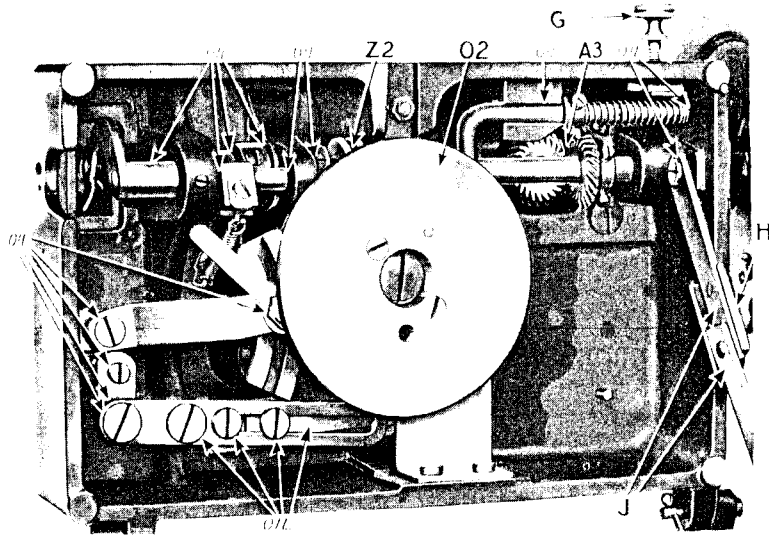
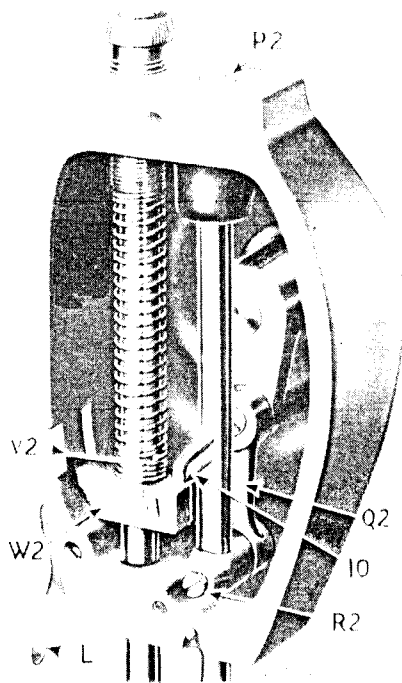
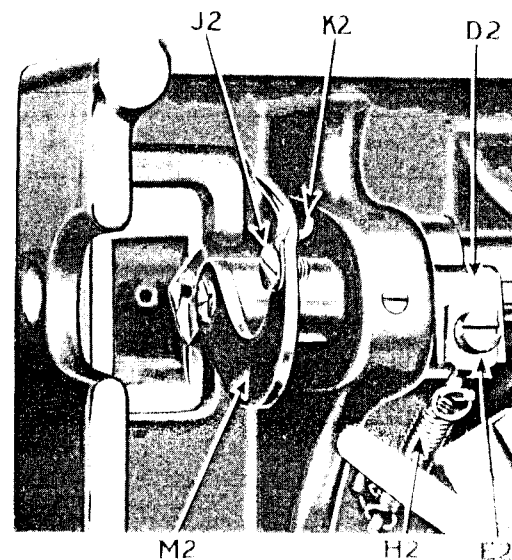
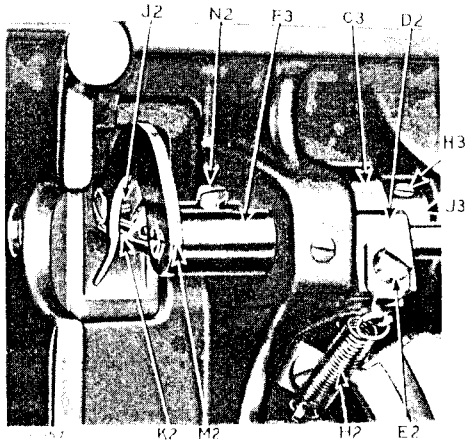

Fig. 4. Showing Oiling Points In Underside of Machine Bed
Fig. 10. To Set the Needle Bar
Fig. 11. Showing Needle Guide Turned Out for Accessibility (View from Underside of Machine Bed)
Fig. 12. Showing Thread Finger and Thread Finger Screw in Correct Relationship to the Needle
(G, Fig. 4) and lay the machine back on its hinges, then apply a drop or two of oil to the points indicated by arrows marked "oil" in Fig. 4. Also apply a small quantity of grease to the roller-way on the under side of each of the two cams in the machine bed. The lower cam (O2) is shown in Fig. 4, but the upper of these two cams is concealed, in Fig. 4, by the cam (O2). Also apply a small quantity of grease to the worm gear (Z2) and bevel gears at (A3).
When the machine is turned back on its hinges, as shown in Fig. 4, the lock slide (H) drops down and automatically locks the jointed support (J) to insure that the machine will remain in its turned back position until it is desired to again lower the machine onto the base. To do this, move the lock slide (H) upward and away from the joint in the support (J), then press in this support and it will fold inwardly as the machine is lowered down onto the machine base.
(a) When changing from one size two-hole button to another size two-hole button, in which the distance between the holes is different, lay the machine back on its hinges as instructed on page 6, and make sure that the lock slide (H, Fig. 4) drops down over the joint (J, Fig. 4) and holds it.
With the machine in stopped position, raise the button clamp by means of the presser bar lifter lever (L, Fig. 10).
Place the fabric under the clamp and, by means of the presser bar lifter lever (L, Fig. 10), lower the clamp onto the fabric.
By means of the lifter lever (L, Fig. 10) raise the button clamp. This automatically breaks the thread at the under side of the fabric and pulls the correct length of thread for the next button.
Should it become necessary to remove the looper, lay the machine back on its hinges as instructed on page 6. Rotate the hand wheel to bring the needle bar up so that the needle is above the throat plate. Loosen screw (N2, Fig. 12) and remove the looper from its shaft.
When replacing, have the flat side of the looper stem where it will be engaged by the screw (N2, Fig. 12) and set the looper so that its point passes the needle as closely as possible but without actually touching the needle. Tighten screw (N2, Fig. 12).
The needle bar should be set with its upper end flush with the top of the machine head as shown at (P2, Fig. 10) when the needle bar connecting link (Q2) is in its lowest position as shown in Fig. 10.
When the needle bar (P2, Fig. 10) rises 1-3/8" above the top of the machine head on its upward stroke, the automatic thread tension should start to open.
If it becomes necessary to remove and replace the thread finger (K2, Fig. 11 and 12) lay the machine back on its hinges as instructed on page 6, making certain that the lock slide (H, Fig. 4) drops down over the joint (J, Fig. 4) and holds it. Rotate the hand wheel until it stops; loosen the clamping screw (E2); turn the needle guide (M2) outward as shown in Fig. 11, then tighten the screw (E2) to prevent the spring (H2) from becoming detached from the hook which is fastened to the crank (D2). Remove the thread finger screw (J2) and the thread finger (K2).
Attach the replacement thread finger (K2) by means of the screw (J2), loosen screw (E2) and turn the needle guide (M2) in to its original position as shown in Fig. 12, with the thread finger (K2) up under the needle hole in the throat plate. Hold the needle guide (M2) up in this position and turn the hand wheel to bring the needle down between the thread finger (K2) and the projecting end of the thread finger screw (J2). Press the crank (D2) lightly against the cam (C3) and tighten the screw (E2). Make sure that the crank (D2) and the needle guide (M2) are against the ends of the bushing (F3), also make sure that the needle does not touch either the thread finger (K2) or the thread finger screw (J2).
The needle guide (M2, Fig. 11) should start to move when needle bar is 1/2" from top of machine head on its upward stroke.
To adjust needle guide, lay machine back on its hinges as instructed on page 6, making certain that the lock slide (H, Fig. 4) drops down over joint (J, Fig. 4) and holds it. Loosen two screws (H3, Fig. 10), only one shown in illustration, and turn cam (J3, Fig. 11) until correct adjustment is made, then tighten screws (J3, Fig. 12).